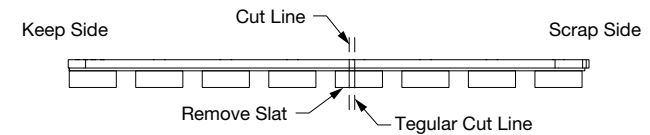

Fig 70
- If less than half of the slat remains, remove the slat (**Fig 70**).